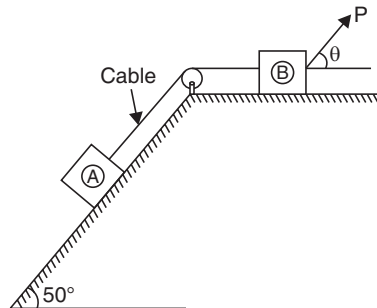

Fig. 6.36
**Example 6.18.** A system consisting of two blocks connected by a cable is as shown in Fig. 6.36. The masses of the block A and block B are 7.5 kg and 25 kg respectively. Determine the magnitude of minimum force and its inclination with reference to the horizontal, to be applied on block B. The block have impending motion towards the right. Take the coefficient of friction at all contact surfaces to be 0.28.